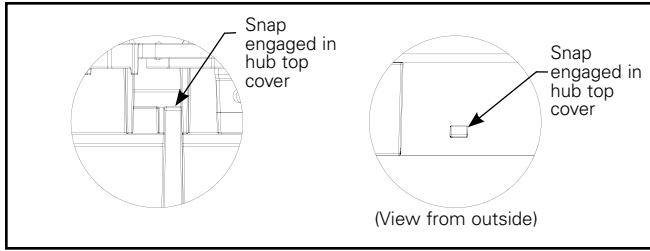

Figure 11.2.
- B. Snaps (4 places) must fully engage in hub top cover (figure 11.2).